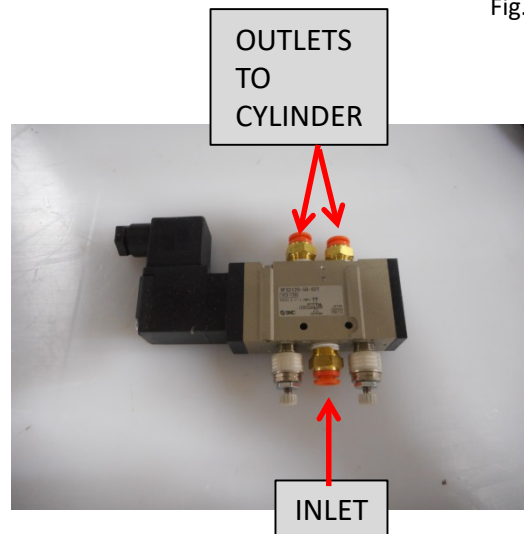

Fig. 3
3. Attach the two outlet ports of the diverter control valve to the cylinder using the supplied plastic tubing. (Tubes may be switched later if diverter operation direction is backwards of desired.) (Fig. 3 & 4)